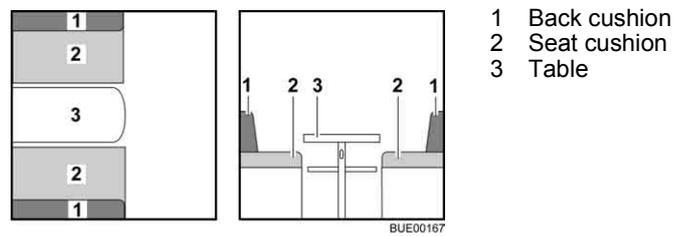

Fig. 84 Prior to conversion
- Convert the table (Fig. 84,3) to a bed foundation (see section 6.12).